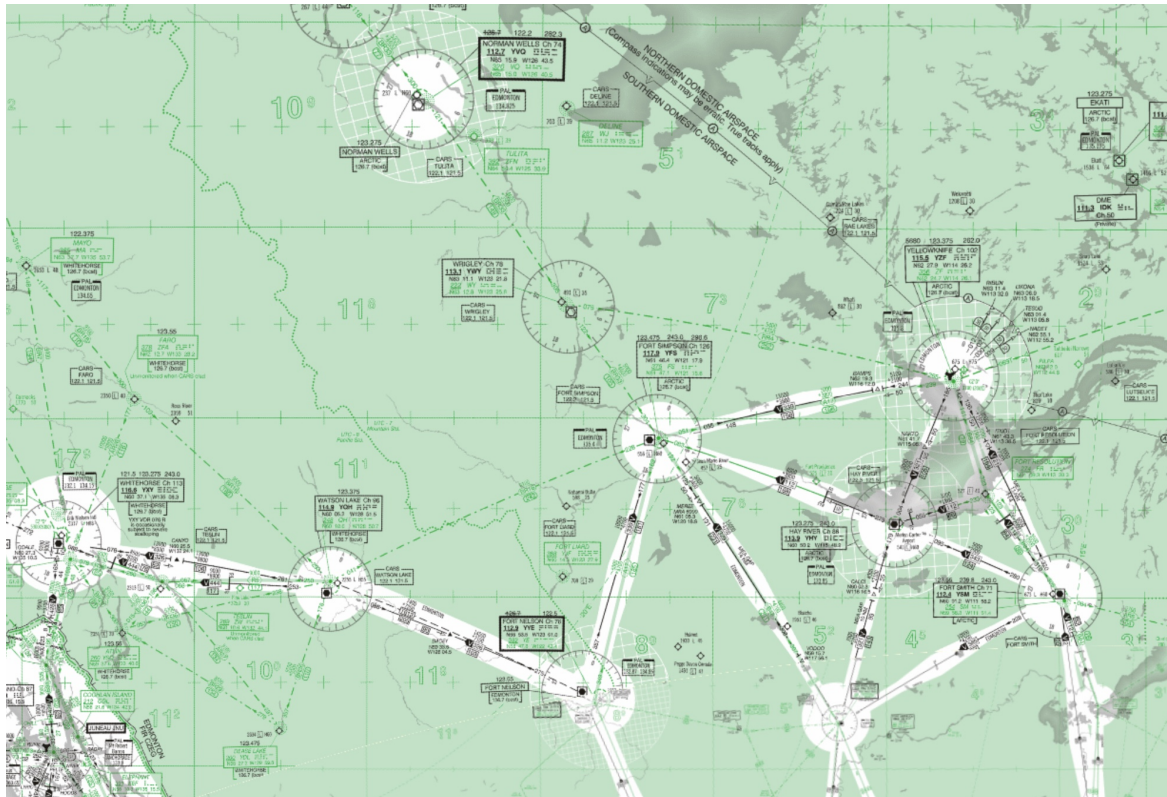

Figure 3-4: Class G airspace in the Edmonton FIR. Green airspace is Class G SFC-18,000' ASL.
Figure 3-4, 3-5, and 3-6 shows the extent of Class E and G airspace within the Edmonton FIR. The shaded green areas are Class G airspace below 18,000. As the diagram shows, in the quieter northern areas, most airspace is designated Class G, and only airways and transition areas around busier airports are designated Class E. Note that solid lines represent Victor airways, while the dashed lines represent uncontrolled Air Routes (AR), which are recognized low-level routes along which control is not provided. Note also that airways are generally a fixed width of 8 nm. This distance increases to 8.68 nm when one or both of the nav aids at either end is an NDB. The width also increases on very long segments, where the normal tolerance of 4.5° (5° for NDBs) exceeds the specified width. For example, halfway between YPE and YMM, the airway gets wider to match the 4.5° tolerance from the two VORs.
Refer to Figure 3-4: Class G airspace within the Edmonton FIR. Green airspace is Class G up to 18,000' ASL. for where Class E procedures apply. Control is provided to IFR aircraft, and separation is provided between IFR aircraft. VFR aircraft are uncontrolled within this airspace. Controllers do not need to provide separation to VFR aircraft, and VFR aircraft in Class E are under no obligation to communicate with ATC. If VFR traffic is observed, information can be passed to IFR aircraft, but without validation of altitude readouts, this information is advisory only, and the IFR aircraft are still obligated to watch for and provide their own separation from the VFR traffic.